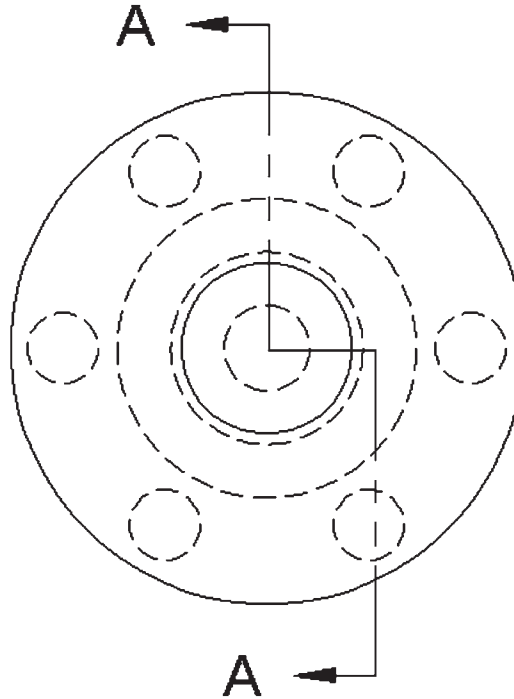

FIGURE 27.14
Step 2. An A and an arrow, the start of a section designator, is attached to your mouse movements. Click your way down the main top view, as seen in Figure 27.14. Note how the section lines pass through several of the cutouts in the model. Seeing those cutouts in the section is usually of interest to the designer, so be sure to trace a path that reveals useful information, not just a random cut.